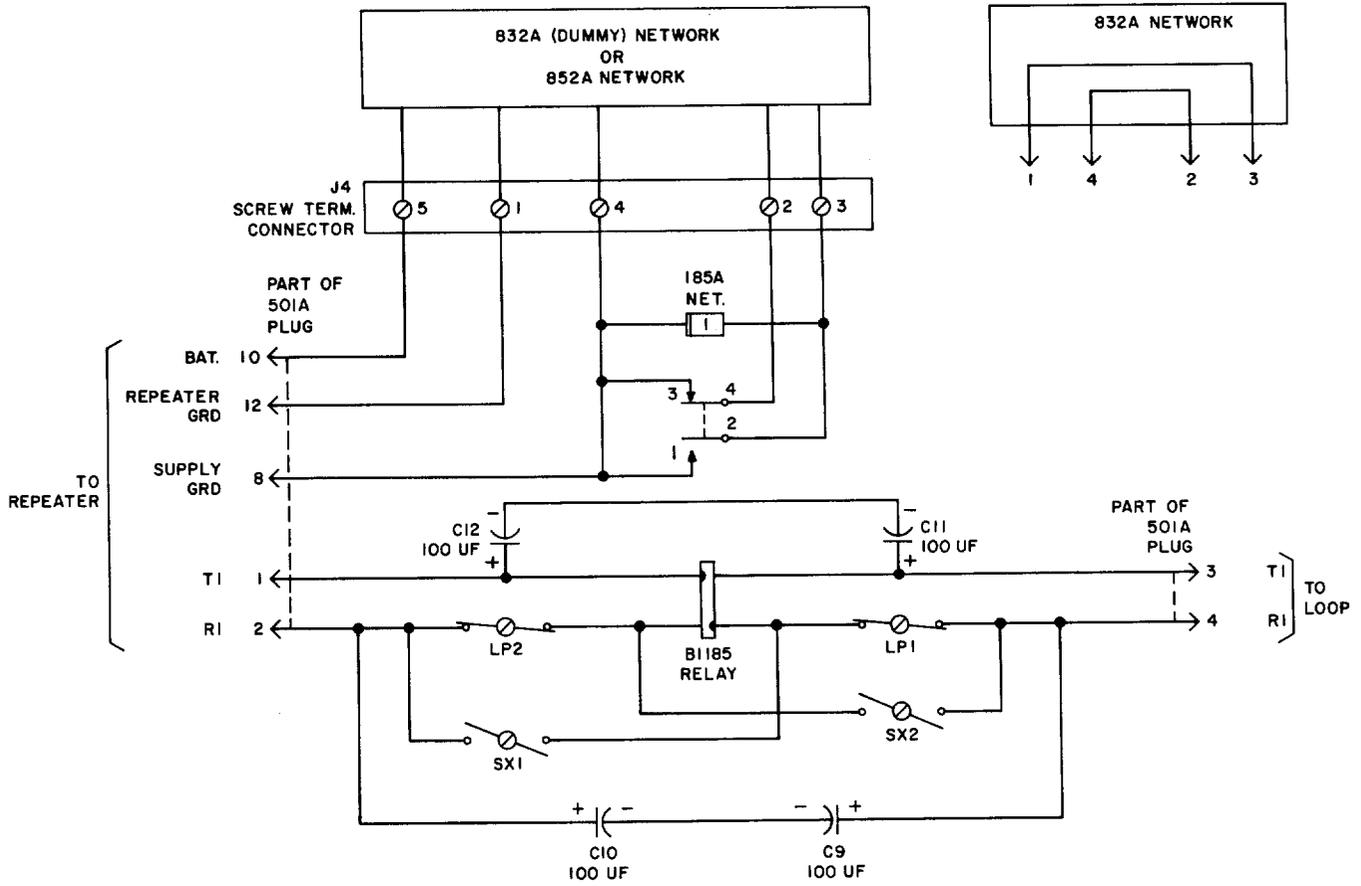

Fig. 1—J99253L Disabler Circuit
2.01 The J99253L disabler is a single-circuit, relay-type disabler that removes repeater gain from the circuit during idle and circuit-switching periods. The disabler functions by detecting the absence of supervisory current. When no supervisory current is flowing, the disabler relay is in a nonoperated condition and the ground lead to the repeater is open. When supervisory current flows, the disabler relay operates and ground is restored to the repeater. A schematic of the J99253L disabler is shown in Fig. 1.